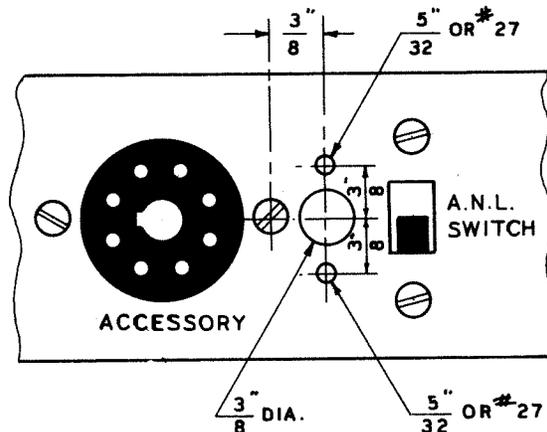

Figure 6
- () Remove the chassis from the cabinet and locate the A. N. L. switch and accessory socket on the rear apron of the chassis. Mount the phono socket between these two. Refer to Figure 6.
- () Refer to Page 11, Pictorial 3 in the AR-3 manual. Connect one lead of the 10 megohm resistor to CC4 (S).
For those sets where the phono socket is mounted to the chassis connect one end of the resistor selected to the center conductor of the phono socket and solder. Connect the other end to the AVC line (point "A" in Figure 6) and solder.